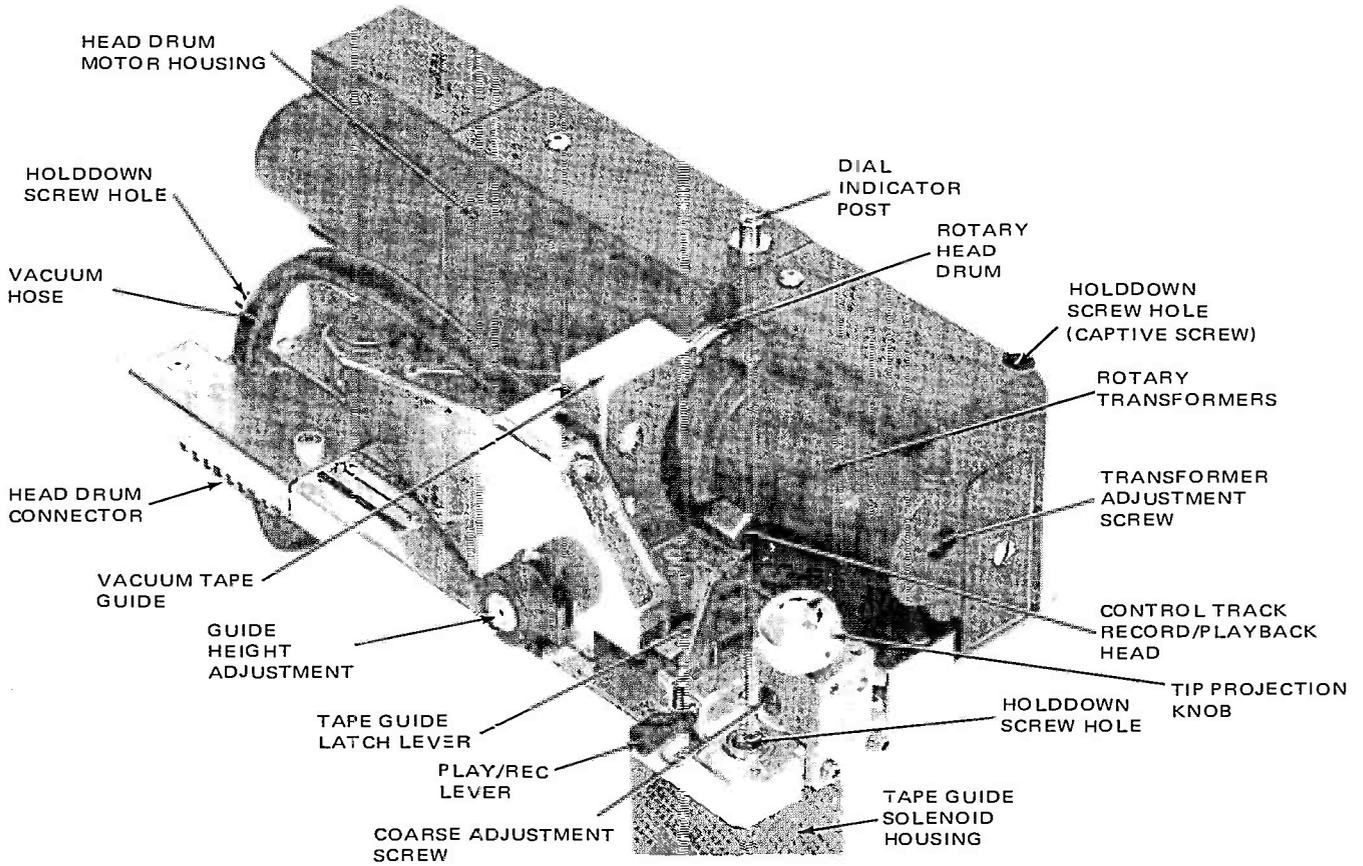

Figure 5-2. Mark XV Head Assembly
Access to the video head assembly and the audio head assembly may be gained by opening the hinged head cover on the tape transport. In order to gain access to the video head tips and the control track head, the vacuum tape guide should be unlatched (see Figure 5-2). The cover plate in front of the audio and cue head assembly flips open when the main head cover is opened.
The height of the vacuum tape guide relative to the head drum is established by the setting of the large knurled knob indicated on Figure 5-2 as the
6. Turn REC/PLAY lever to play and adjust tip projection knob (Figure 5-2) to obtain minimum skew indication.